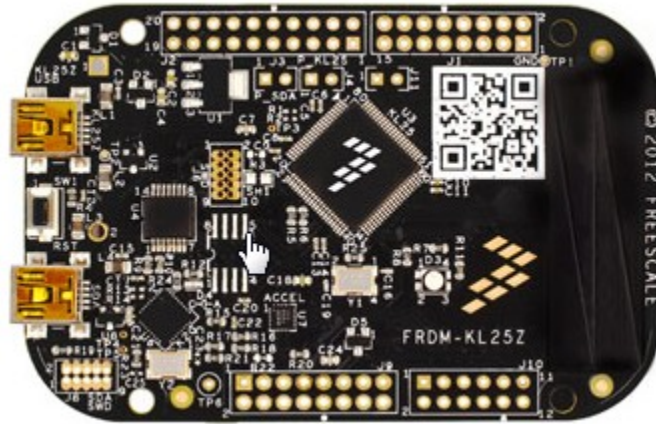

Figure 1. KL25Z Freedom Development Platform (FRDM-KL25Z)
- KL25Z Freedom Development Platform Figure 1 based on the Kinetis KL2 family MKL25Z128VLK4 MCU